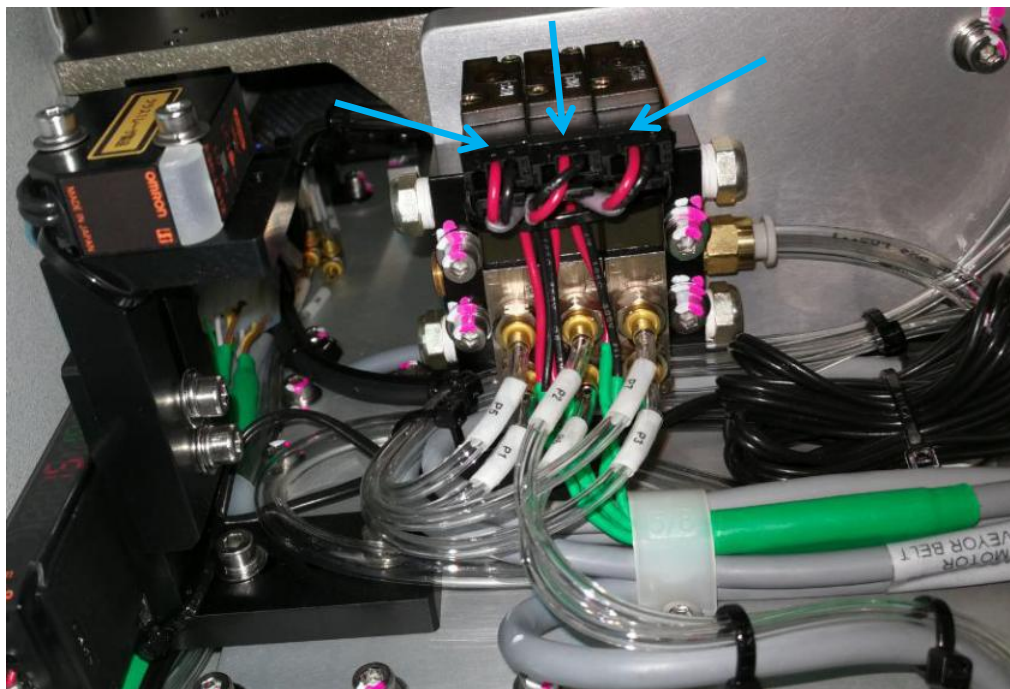

Figure 4 Solenoid Valve Cables Removal
5. Disconnect 3 x Solenoid Valve Cables as below Figure 4